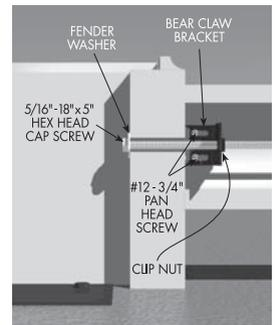

FIGURE 4D
**D)** Position the BALUSTER BOTTOM RAIL between the NEWEL POST BOTTOM SECTIONS and align the 5/16" - 18 x 5" HEX HEAD CAP SCREWS with the BEAR CLAW BRACKETS (Fig. 4D). Be sure to check that the BALUSTER BOTTOM RAIL is level. Tighten 5/16"-18 x 5" HEX HEAD CAP SCREWS to 75 in./lbs. torque. Repeat Step 4 around the entire balustrade layout.